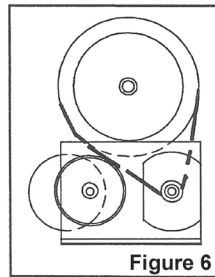

Figure 6
- A. The drive belt must be connected from the small pulley on the wrapping motor shaft to the large pulley which drives the chuck (your "RODSMITH RW-3L" should arrive in this configuration). See Figure 6. To remove the belt from the machine or to install a new belt, press down gently on the wrapping motor. This will allow clearance for the belt by enlarging the gap between the motor mount and drive pulley. **DO NOT FORCE THE BELT THROUGH THIS GAP.** Even a slight abrasion will decrease its life or result in immediate belt failure.